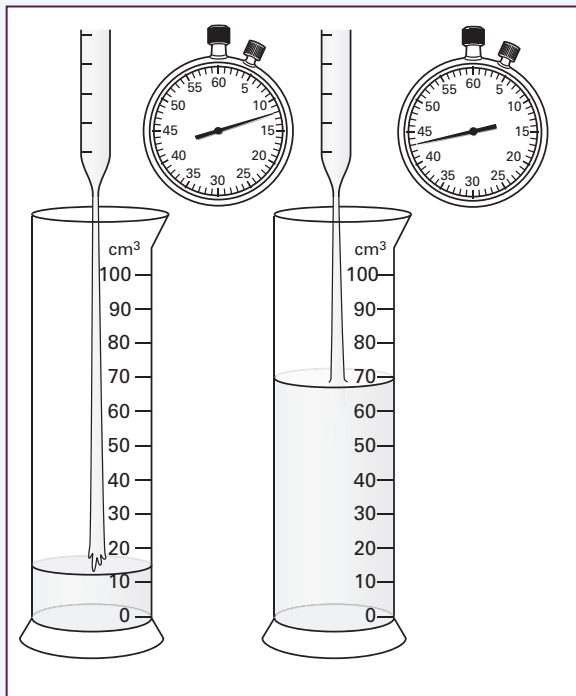

Figure 1.15 For Question 1.2.
- 1.2** A student is collecting water as it runs into a measuring cylinder. She uses a clock to measure the time interval between measurements. Figure 1.15 shows the level of water in the cylinder at two times, together with the clock at these times. Calculate: